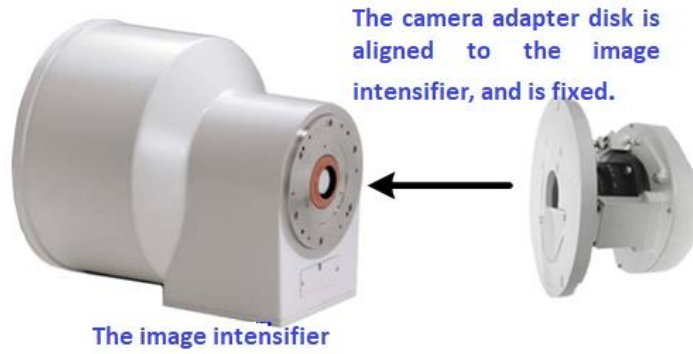

Figure 3-2 Installation of camera
2. The camera adapter disk is aligned to the image intensifier. Its direction is shown in Figure 3-2. The adapter disk is fixed on the image intensifier by the through-hole on it. As shown in Figure 3-3, there are two groups of through holes (three in each group) on the camera adapter disk. The user can choose a set of through holes that mark the same color in the image, and fix the camera on the image intensifier.